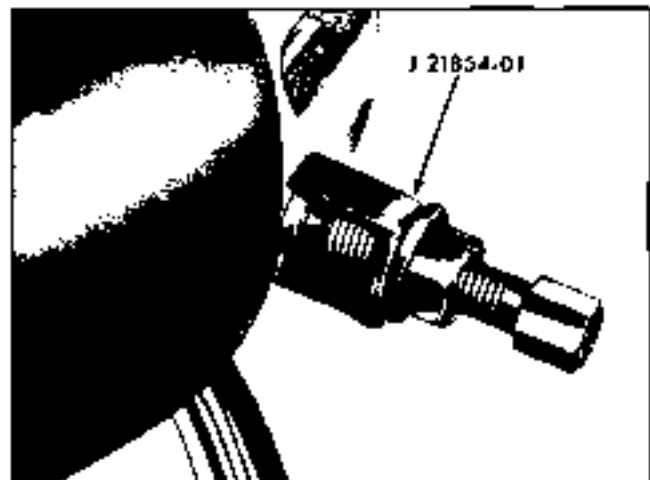

Fig. 9-33 Removing Pivot Pin
14. Remove two pivot pins with tool J 21854-1 (Fig. 9-33).